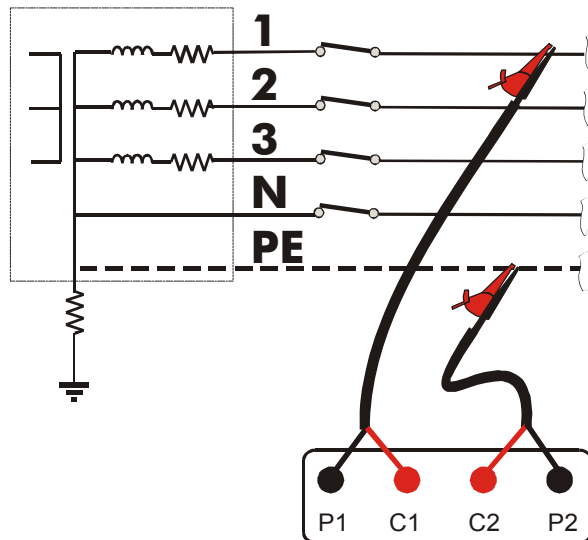

Fig. 5: Instrument connection for phase to ground impedance measurement
2. Connect the alligator clip to the Electrical pant according to Fig. 5.
3. Insert the 4 safety connectors into corresponding instrument's inputs **according to sequence P1, P2, C2, C1** (see Fig. 5).